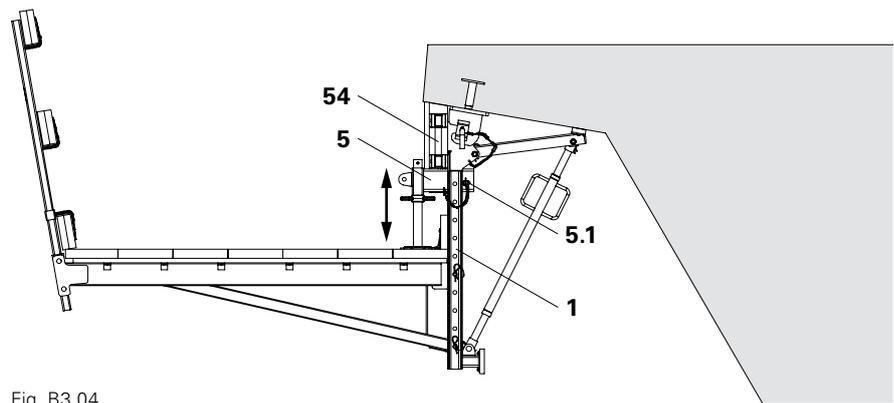

Fig. B3.04
2. Insert Formwork Fixing VGK 2 (5) into the Bracket Post VGK (1).
3. Adjust Formwork Fixing VGK 2 (5) to required height with the spindle.
4. Secure Formwork Fixing VGK 2 (5) with a wedge (5.1).
5. Position Internal Stopends (54) on the Formwork Fixing VGK 2 (5) and adjust. (Fig. B3.04)